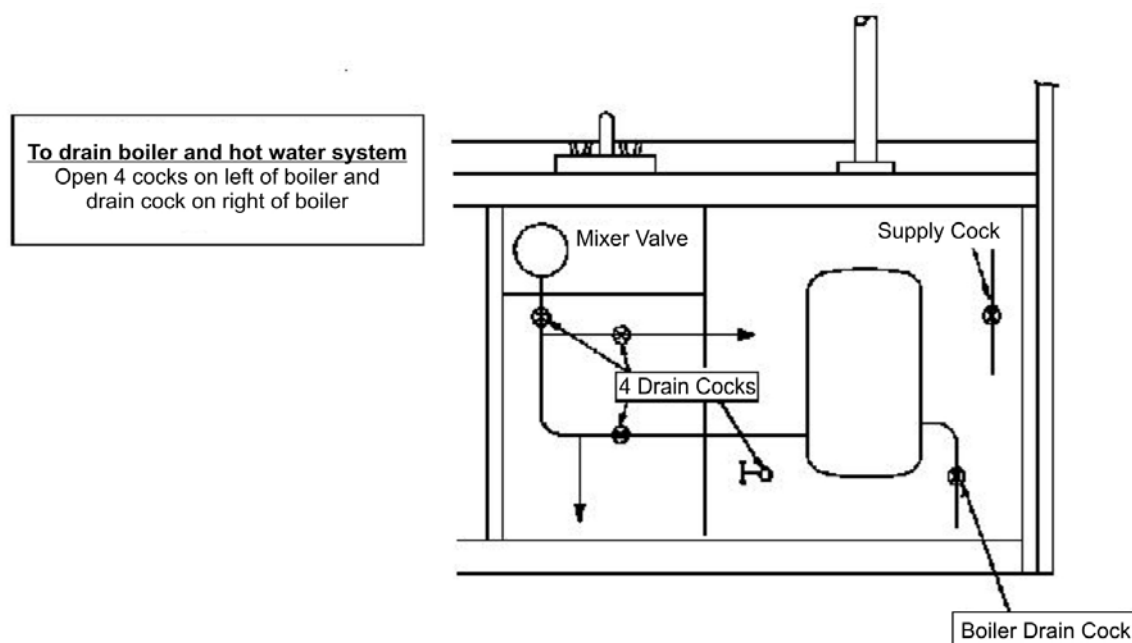

Figure 1.3: Location Of Drain Cocks In Boiler Enclosure
4. Open the wheel operated cocks (see note and Figure 1.3).
6. Place a notice "Water tanks and boiler drained" (see Materials item 1) in a prominent position in the kitchen.